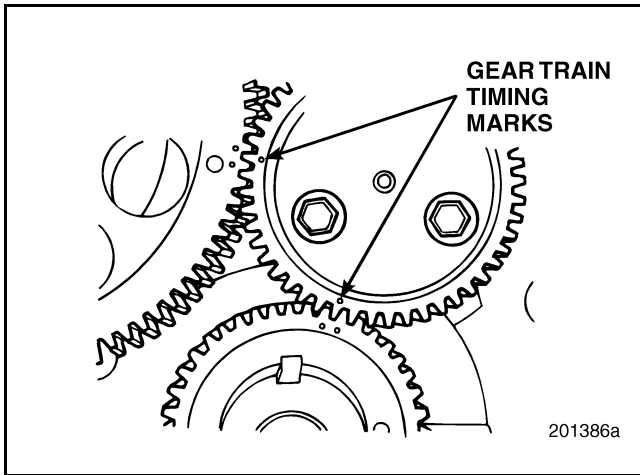

Figure 265 — Timing Marks Properly Aligned
4. Position the idler gear timing marks so they align (Figure 265) with the crankshaft and camshaft gear timing marks. Then slide the idler gear/hub assembly into position on the cylinder block.